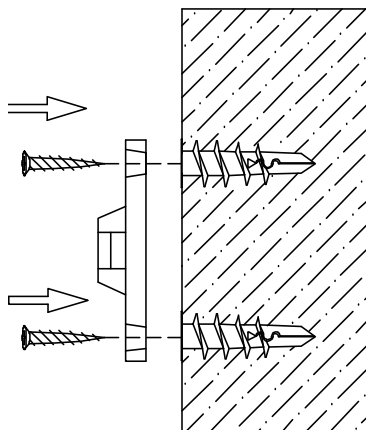

Figure 1
2) MOUNTING THE WALL-SIDE BRACKET: Position the bracket along the selected stud mark so that it will be adjacent the furniture post when the furniture item is moved to its final position. The bracket should be about TWO inches lower than the 1st Layer top. Use the TWO Stud Mounting Screws to secure the bracket to the wall when Drywall Anchor has installed. Remember to position the bracket vertically so that both screws will engage the selected wall stud (See Figure 1).